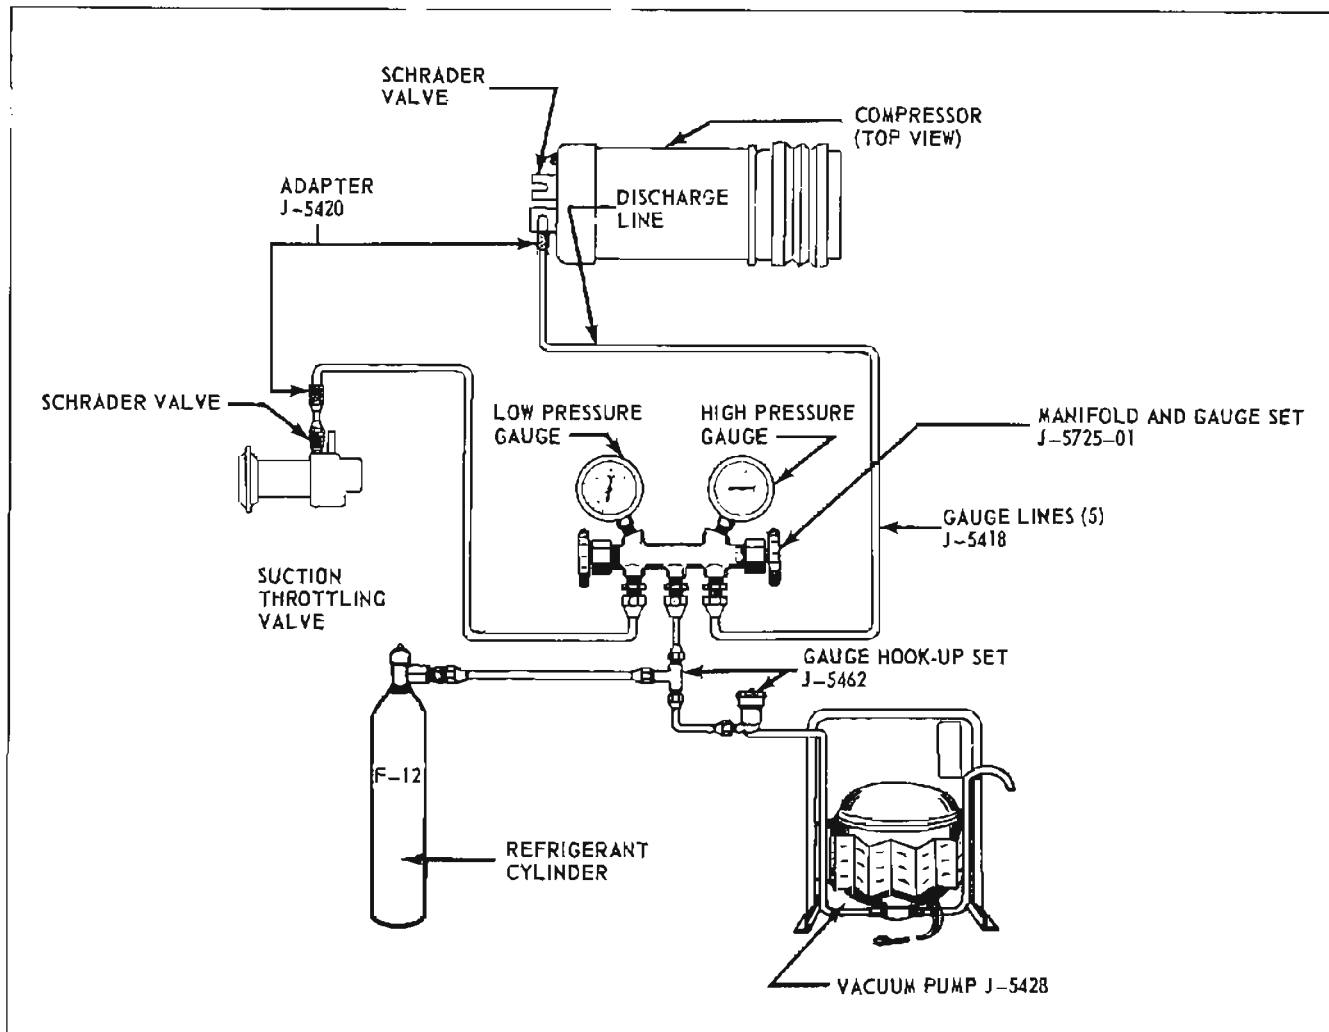

Figure 11-113—Charging Air Conditioner System
2. Interconnect vacuum pump (J-5428), Manifold and Gauge Set (J-5225-01), Gauge Hook-Up Set (J-5462), Gauge Adapters (J-5420), five Gauge Charging Lines (J-5418) and refrigerant-12 cylinder with air conditioner system (see Figure 11-113). Be sure all valves are closed.